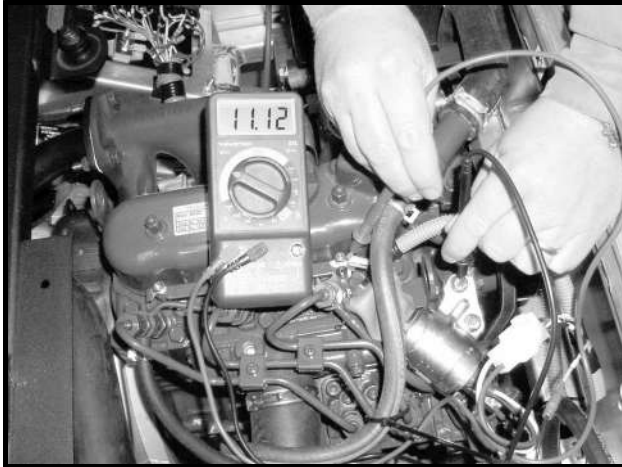

Figure 11b-32 Glow Plug Circuit Test
3. Place the red (+) probe on the wire terminal where the 12-gauge blue wire (w28) connects to the glow plug and glow plug buss bar (**Figure 11b-32, Page 11b-35**).